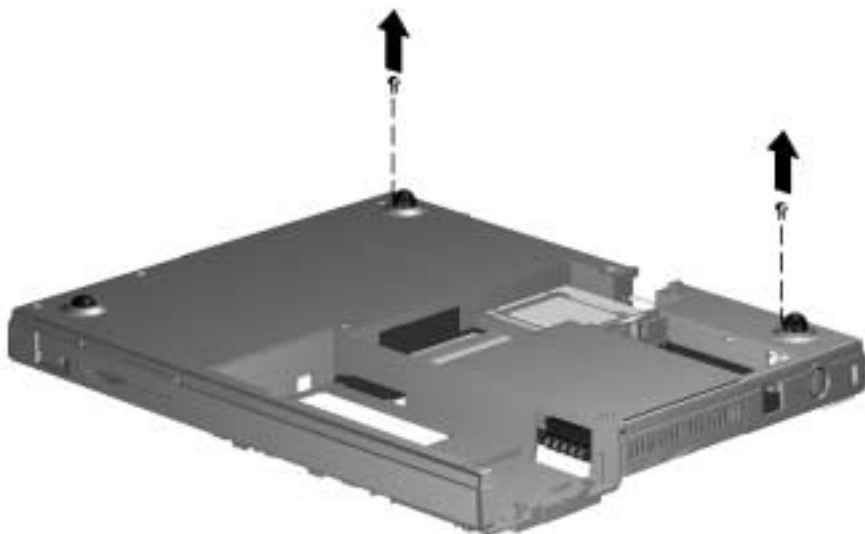

Figure 5-31. *Removing the System Board Screws*
3. Remove the two screws securing the system board to the base assembly (Figure 5-31).